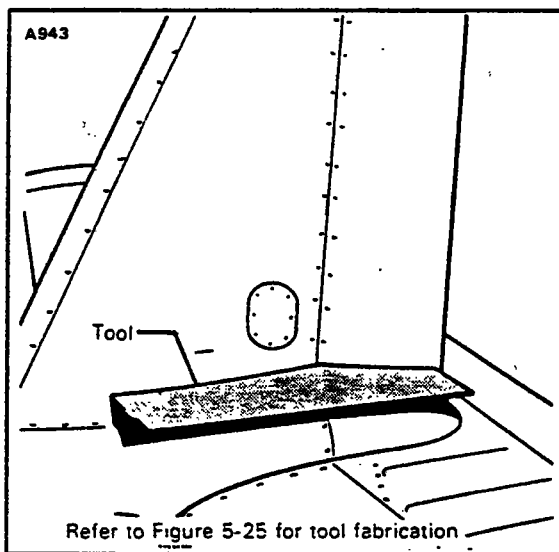

Figure 5-14. Rudder Rigging Tool
2. With the rudder against its stop, place a rigging tool against the side of the rudder and vertical stabilizer as shown in Figure 5-14. (Ascertain that the tool is not contacting any rivets.) If no gap exists between the rigging tool and the surface of the rudder and vertical stabilizer, the rudder stop for one direction of travel is correct as required in Table V-I. (This tool may be fabricated from dimensions given in Figure 5-23.)